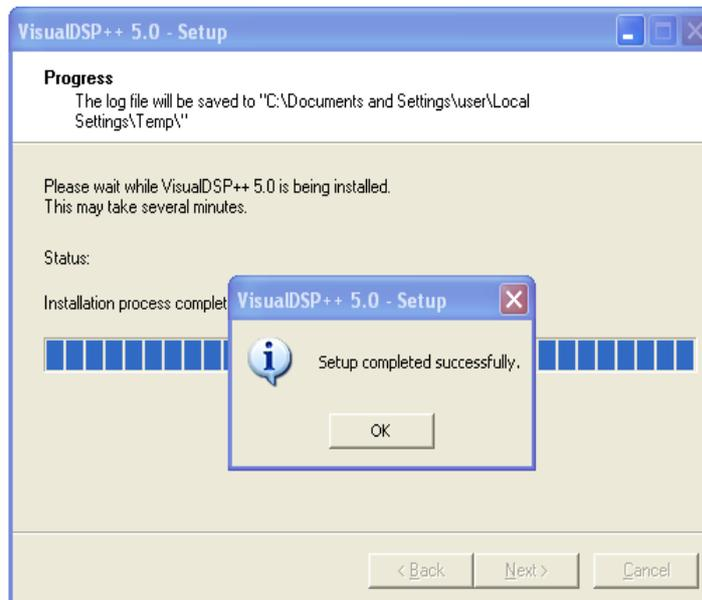

Fig.1-7 Setup completed successfully message box
2. An information screen asks if you would like to install a license. Click **Yes**. (Fig.1-7)